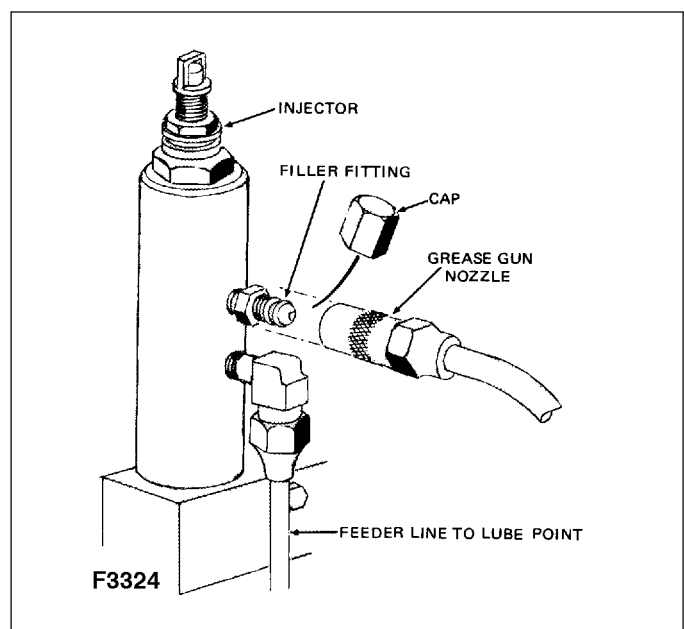
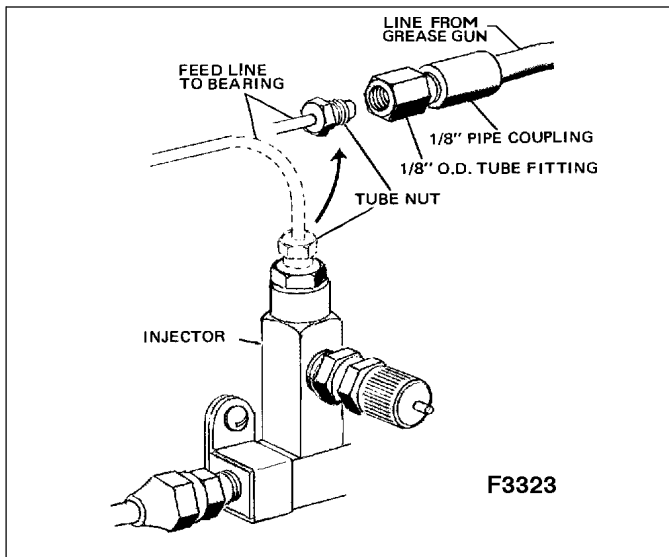
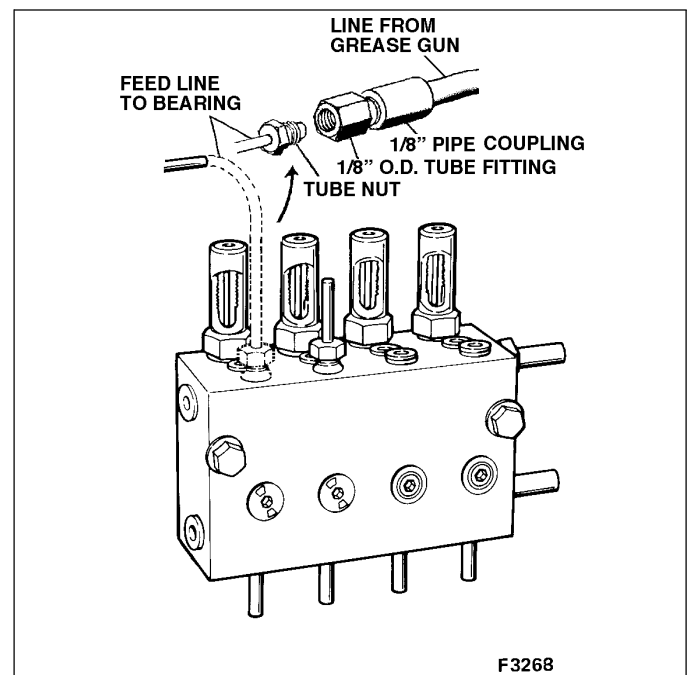

Figure 10-53. Bleeding Air From Feeder Lines SL-1 and SL-11 Injectors
Figure 10-54. Bleeding Air From Feeder Lines SL-32 Injectors
Figure 10-55. Bleeding Air From Feeder Lines Measuring Valves
BLEEDING AIR FROM FEEDER LINES. To bleed air from feed lines, refer to Figure 10-53, Figure 10-54 and Figure 10-55 and proceed as follows:
1. For Lincoln injectors SL-1 and SL-11 with a filler fitting refer to Figure 10-53 and proceed as follows.
2. For components without filler fittings, refer to Figure 10-54 and Figure 10-55 and bleed air as follows:
- B. Using a grease gun containing the same type of grease being used in the lubrication system and configured as shown in Figure 10-54 and Figure 10-55, pump grease through the